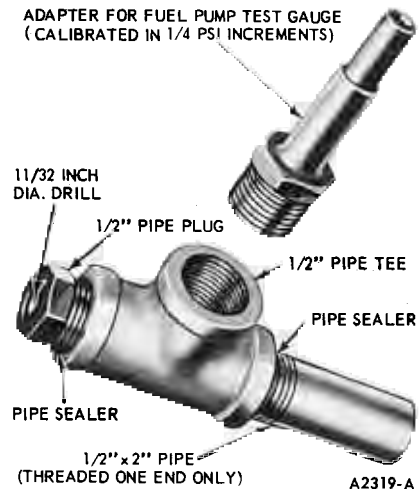

FIG. 2—Air Supply Pump Test Gauge Adapter
1. Assemble a test gauge adapter as shown in Fig. 2, and install a fuel pump test gauge on the adapter. **The test gauge used must be accurate and readable in 1/4 psi increments.**